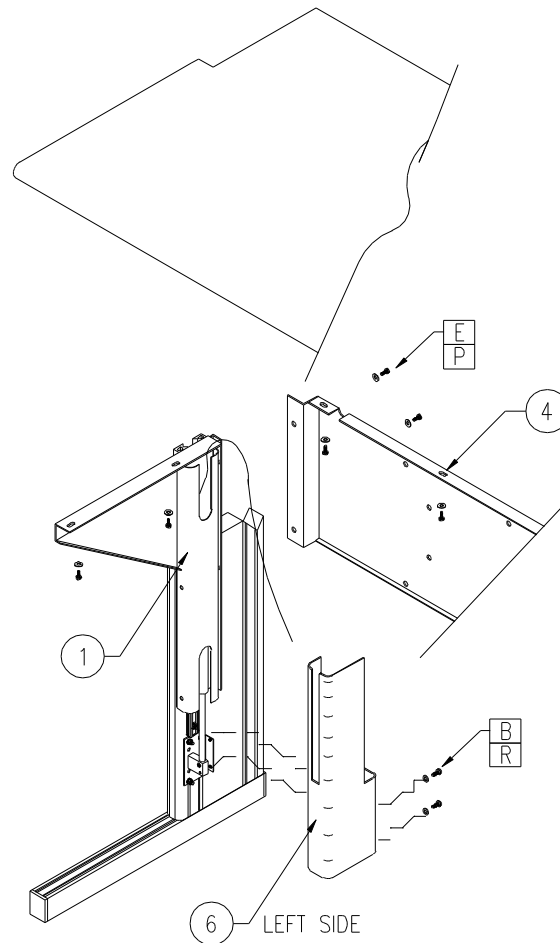

Figure 5
STEP 6: Attach the rear guard panel item 4 Figure 5 to the back of the worksurface support assemblies item 1 Figure 5 using 1/4-20 x .750 hex head bolts item E and 1/4 flat washers item P as shown in Figure 5. DO NOT tighten this hardware. Attach the cylinder outer covers items 5 and 6 shown in Figure 5 using #10-32 x .50 phillips screws item B and #10 flat washers item R. DO NOT tighten screws. Once lowered lift up and then push down gently on the front of the worksurface support assemblies to feel for movement in the system. There should be very little movement of the worksurface support assemblies. If there is too much movement please see page 12 for instructions on making adjustments to remove the movement. Once any adjustments needed have been made attach the cylinder outer covers items 6 and 7 shown in Figure 5 using #10-32 x .50 phillips screws item D and #10 flat washers item N. Carefully align the cylinder covers so that they are in line with the worksurface support assemblies and tighten these screws. Using the motor power switch raise the worksurface support assemblies approximately 8" out of the cylinder housing.